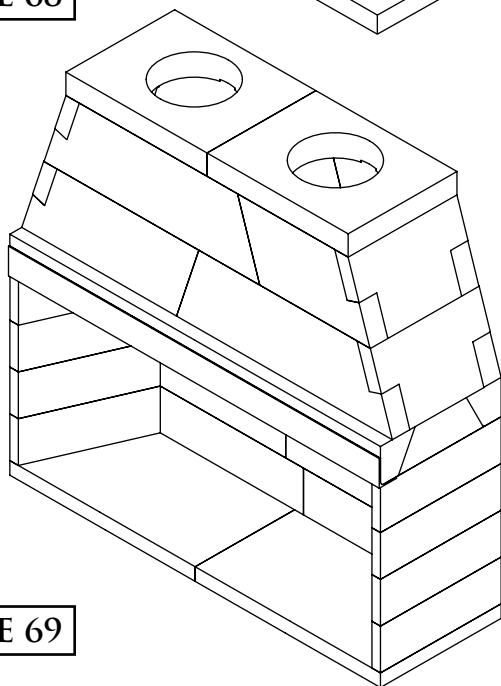
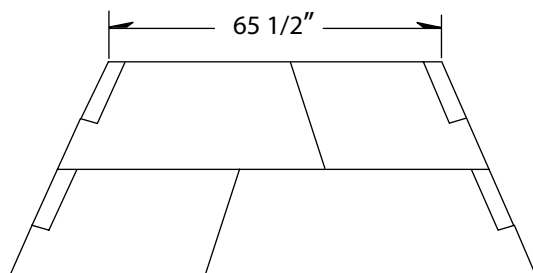

FIGURE 69
FIGURE 66
**Step 20:** Place one of the angle cut smoke dome top medium pieces at the front and one at the back of the first tier smoke dome so that they meet the smoke dome top big (haunch cut off and  $50$ " bottom length) already set in Steps 14 and 15. The overall width dimension at the top of the smoke dome should be  $65\text{-}1/2$ " (Figure 66).
Place the two top plate small components on top of the second tier smoke dome arrangement so that they meet at the centerline of the smoke dome. Typically, the outlet hole sits closer to the back of the smoke dome. The top plates should sit flush with the front and back of the smoke dome. (Figure 69).
The top width dimension of the completed smoke dome should measure 65-1/2". (Figure 66) Each top plate small has a width dimension of 32-3/4 inches. Two of the top plates butted together should equal the smoke dome top width dimension of 65-1/2". (Figure 69)